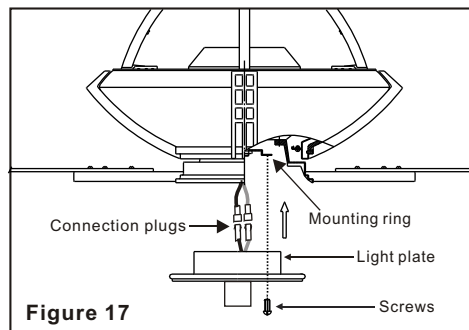

Figure 17
Step 2. Connect the white wire connector from the light kit and fan, follow the same procedure with the black wire connectors. (Figure 17)
Step 3. Place the key holes on the light plate over the 3 screws previously loosened from the mounting ring, turn light plate until it locks in place at the narrow section of the key holes. Secure by tightening the 3 screws previously loosened and the one previously removed. (Figure 17)